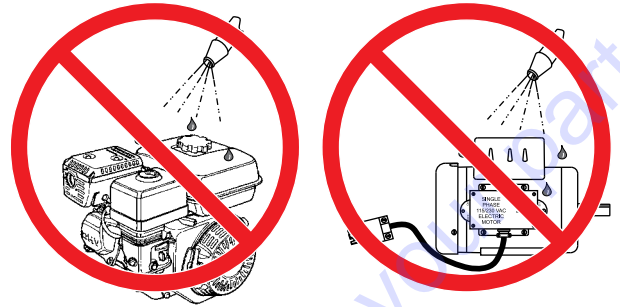

Figure 45. No Spraying of Water
10. **NEVER!** pour or spray water over the engine or electric motor (Figure 45).